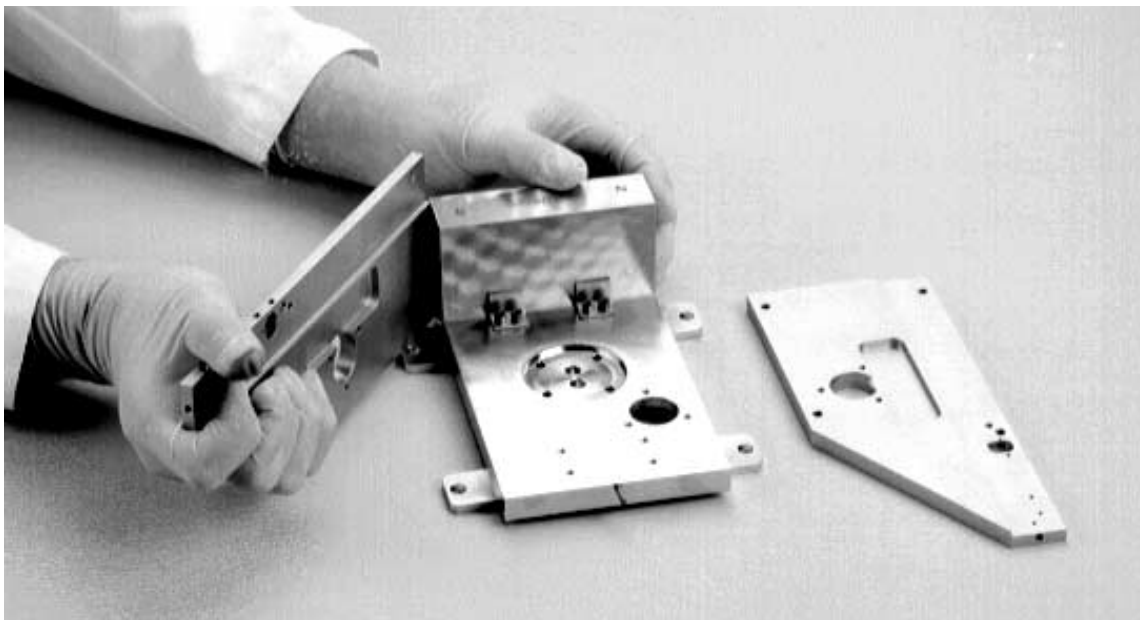
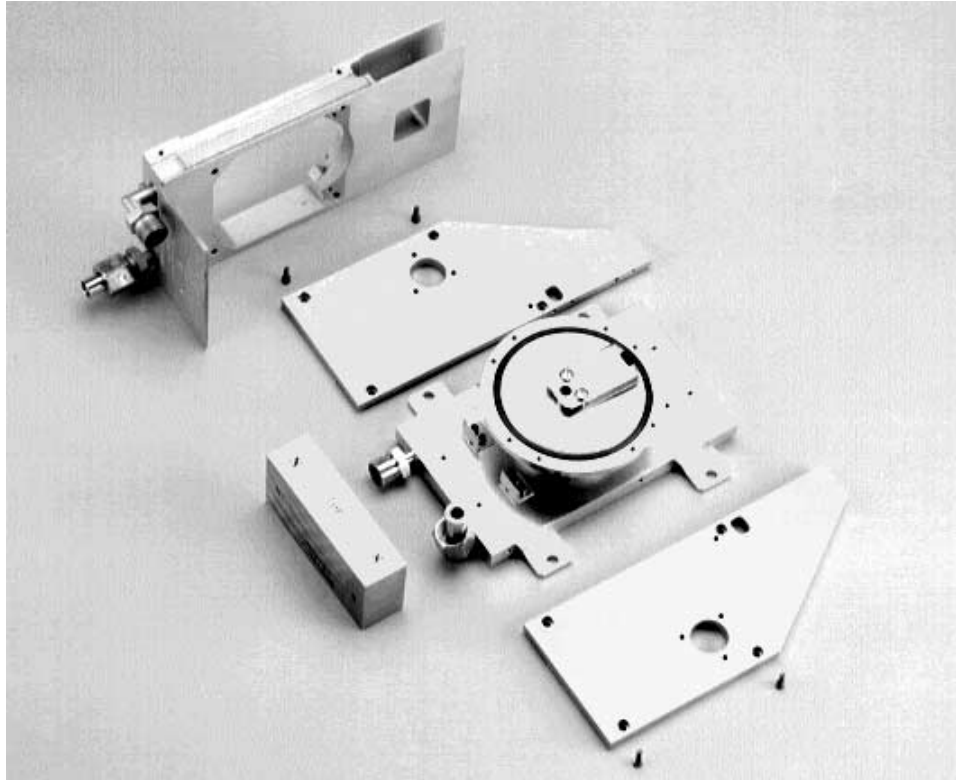

Figure 6-15. Correct technique for detaching pole pieces from magnet and base plate
Figure 6-16. Magnet, pole pieces, and coil housing following removal from source
Step 18: Remove the pole pieces from the remainder of the source. To do so, grasp the permanent magnet with one hand and the angled front end of a pole piece, as shown in Figure 6-15. Then swing the front of the pole piece away from the source and carefully separate it from the rear edge of the magnet, rocking it slowly up and down if necessary to break it free from the magnet's very strong field. (Note: For clarity, Figure 6-15 shows the source as it would appear with the crucible mounting flange and the bearing housing assembly removed. In actuality, those parts would still be attached to the source at this stage of the disassembly sequence, as shown in Figure 6-16.)